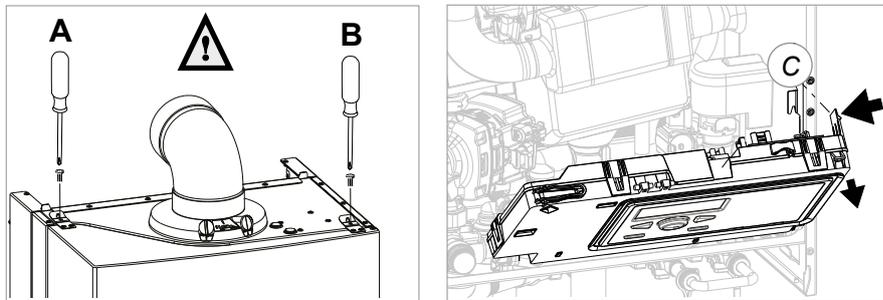

Figure 16.a
- Remove the screws from the 2 fasteners A and B (see fig. 16.a);
#### Siphon (see fig. 16.b)